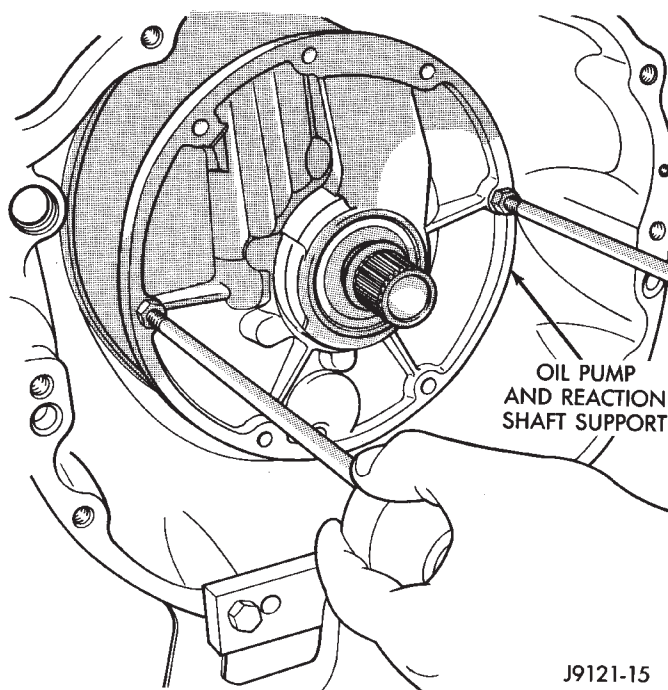

Fig. 104 Oil Pump Removal
- (d) Remove oil pump and reaction shaft support by bumping slide hammers outward alternately to pull pump from case (Fig. 104).